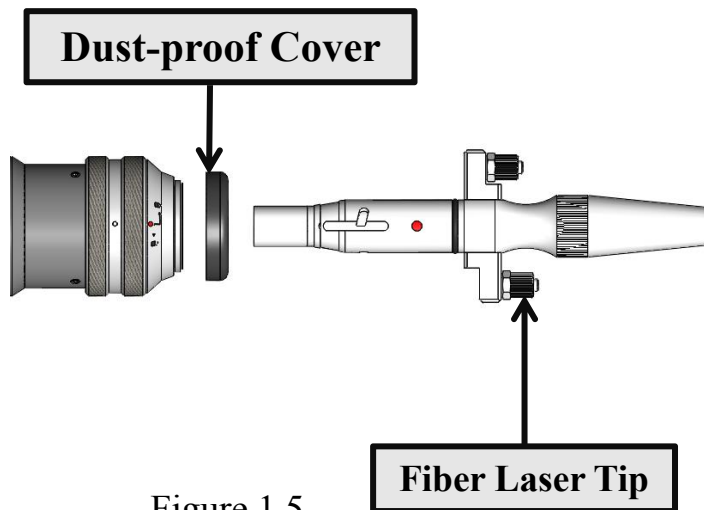

Figure 1.5
- ① Put the cutting head horizontally, remove the white cover and static sticker, and then take out the dust-proof plug and dust-proof cover, as shown in Figure 1.5.